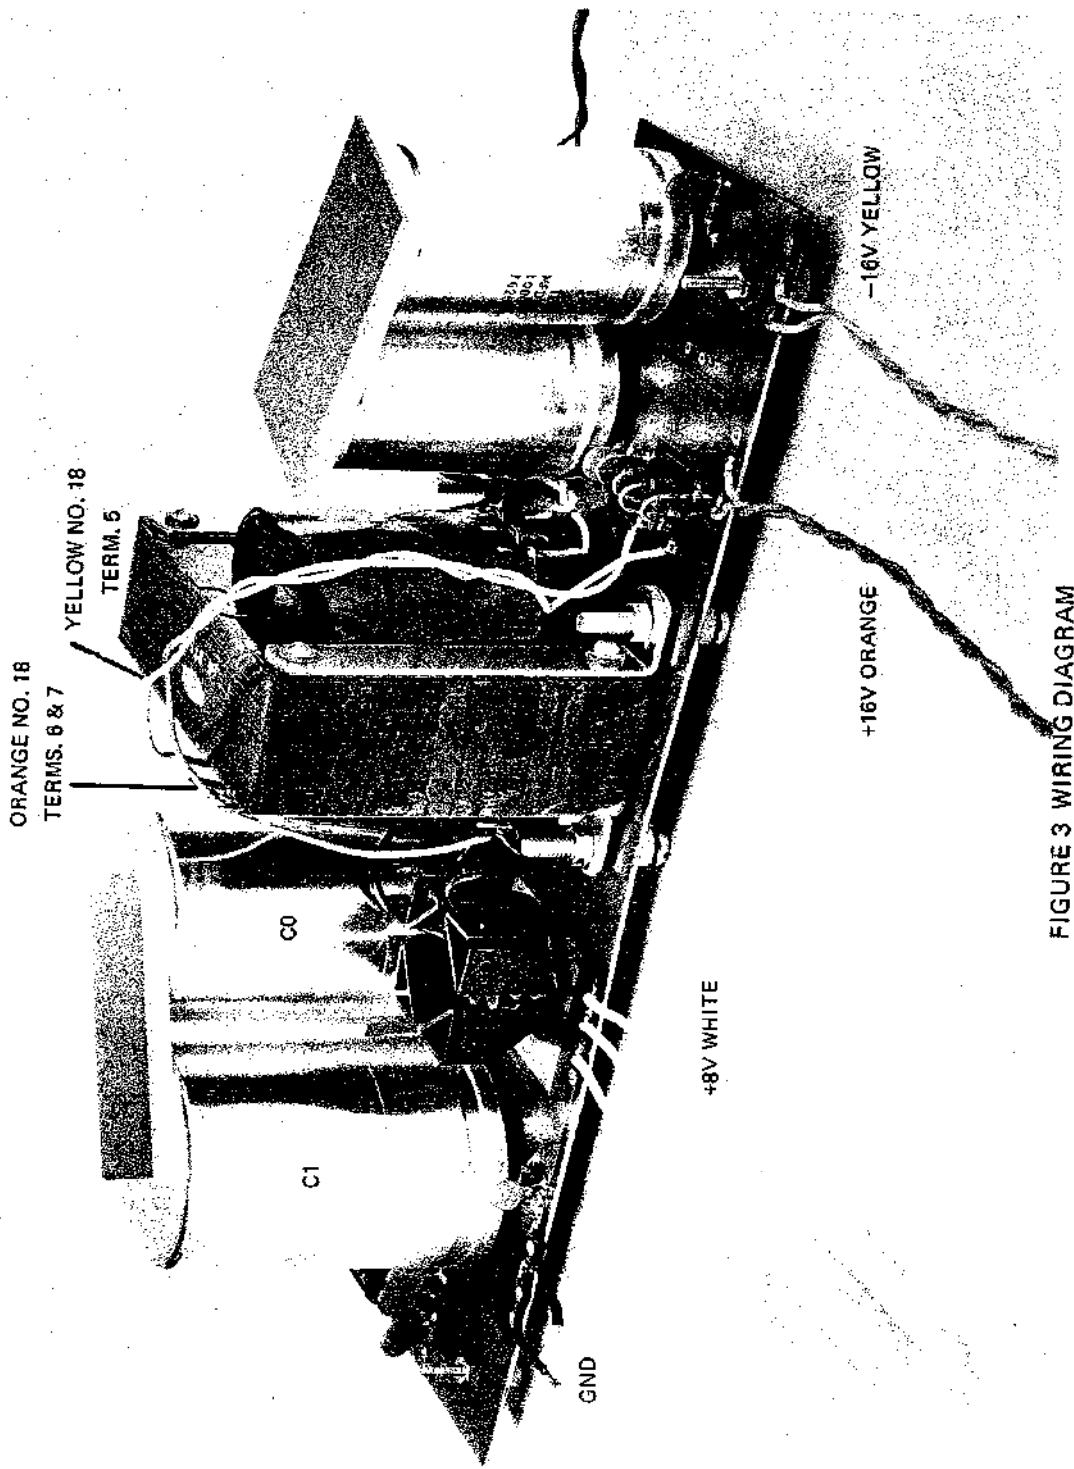

FIGURE 3 WIRING DIAGRAM
- 5) Next bend each of the cathode leads on each of the four rectifier diodes CR4, CR5, CR6 and CR7 as shown in Figure 3. Insert the anode end of the diodes down as shown in Figure 3 and solder.